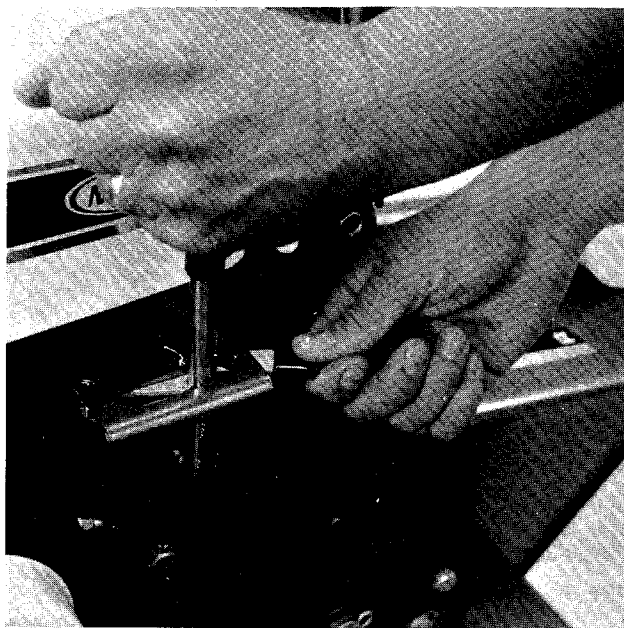

FIGURE 16. PARKING BRAKE
c. Parking Brake. To set the parking brake, pull the parking brake lever back and hold it in the locked position while moving the locking arm to the left. See figure 16.